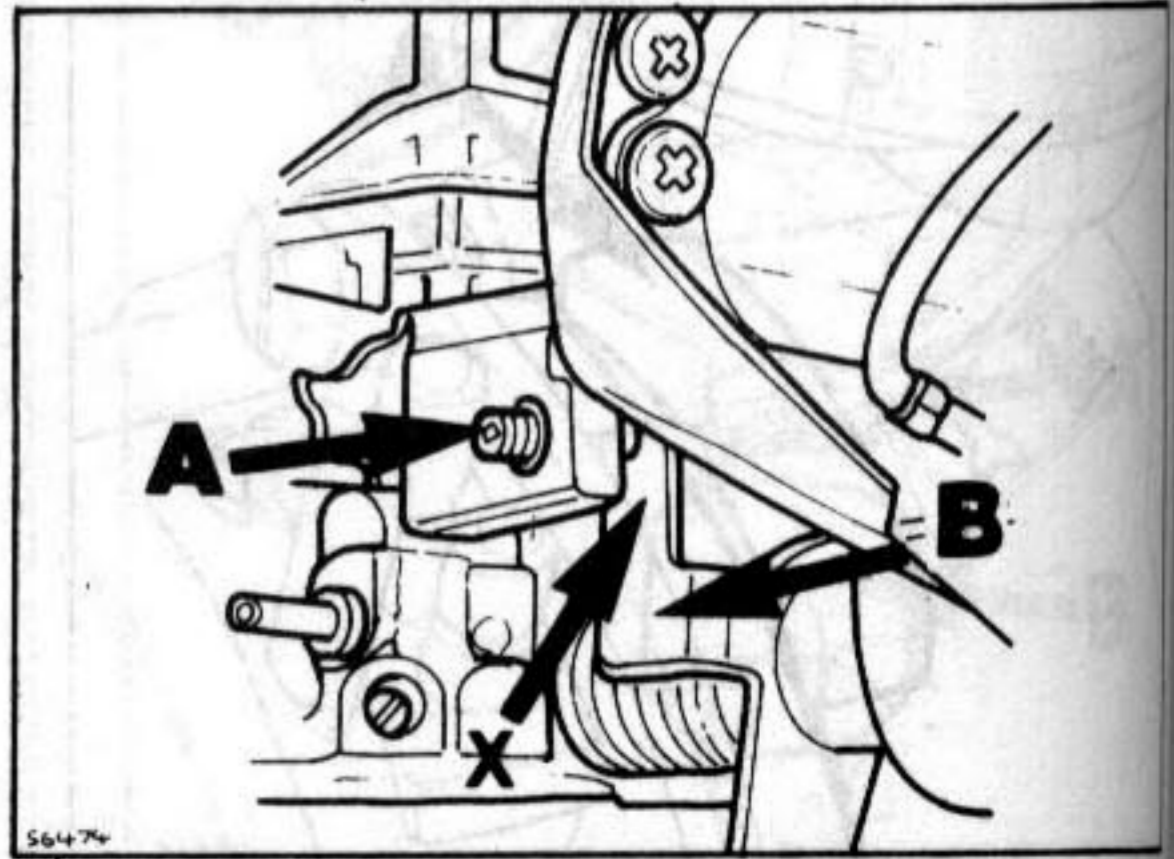

Fig. 3 Throttle stop screw
- c) In this position check clearance (X, Fig. 3) with suitable gauge. The throttle stop screw setting should not be disturbed.
- c) Ensure throttle lever (B, Fig. 3) is on stop screw (A).